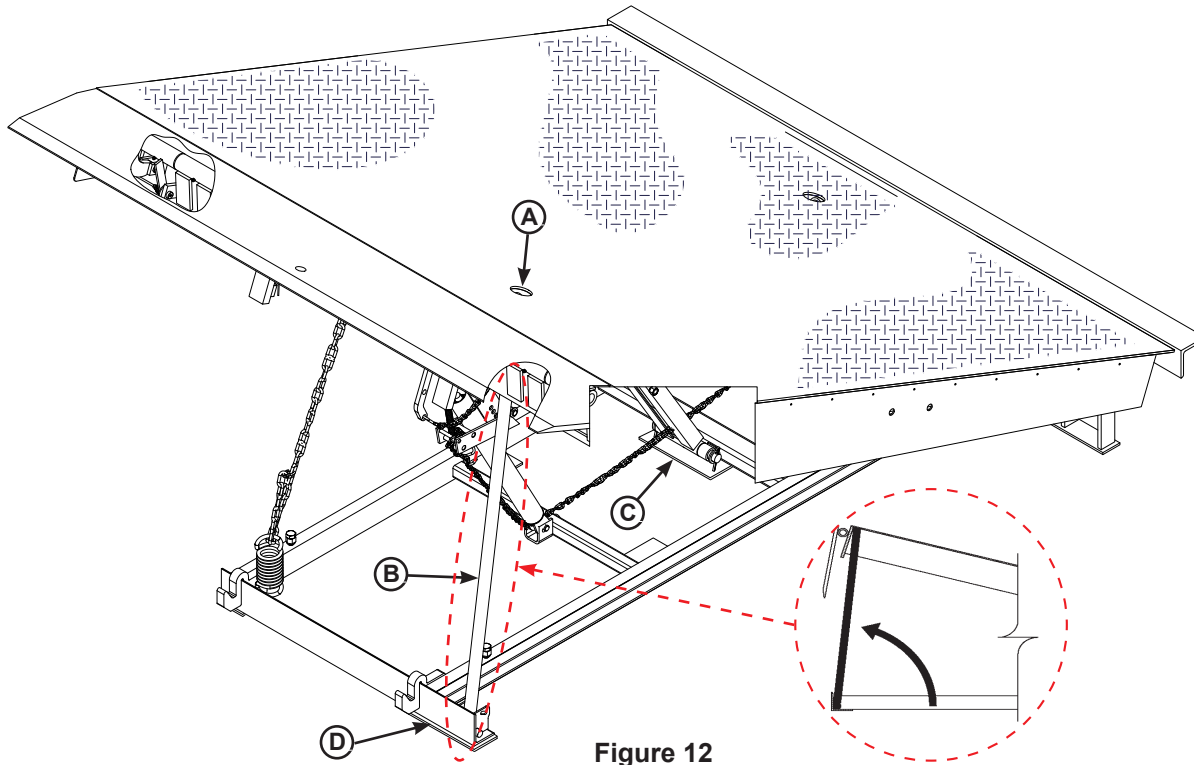
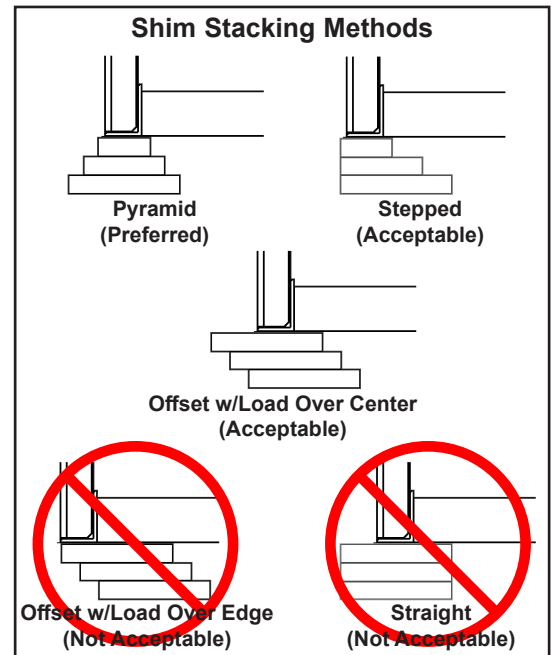

Figure 12
Figure 13
21. Shim and weld the maintenance prop (Figure 12):
a. Install shims under maintenance prop (B) where prop attaches to leveler frame. Make sure prop is solidly shimmed.
b. Raise maintenance prop (B) to the service (upright) position and lock prop in this position using an OSHA approved locking device.
22. Install shims under lift arm (C, Figure 12) at locations using an acceptable shimming method (see Figure 13). The lift arm pivot must be solidly shimmed the entire length of the lift arm pivot. Make sure the lift arm pivot is level from side-to-side.